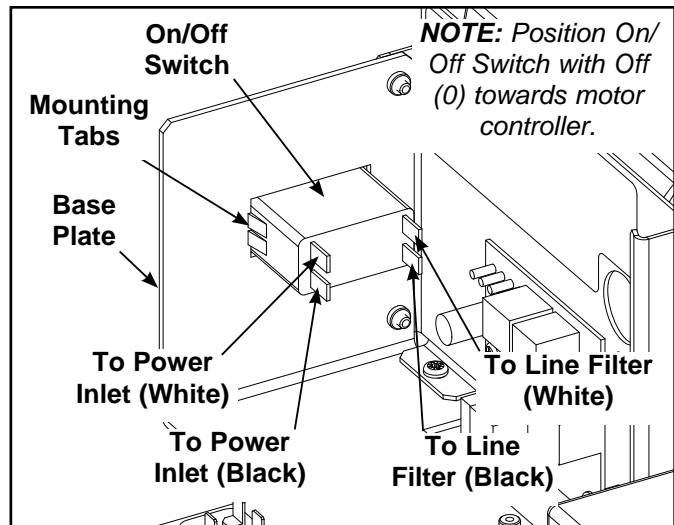

Figure 21
- B. Using a flat head screwdriver, press in the mounting tabs on both sides of the On/Off switch to remove it from the base plate. See Figure 21.
- B. Connect the two white fast-on connectors the on/off switch as shown in Figure 21.
- C. Connect the two black fast-on connectors the on/off switch as shown in Figure 21.